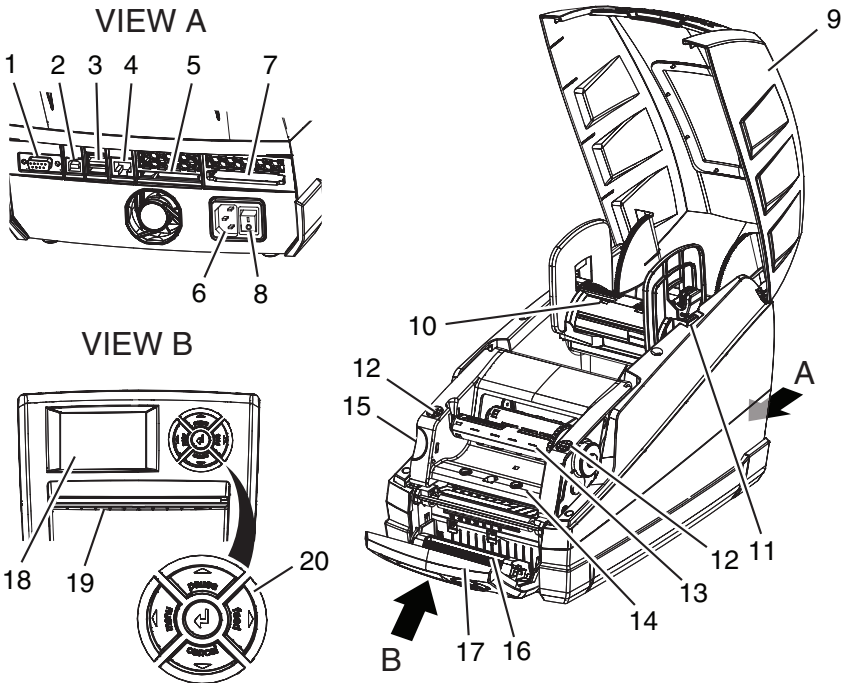

Figure 1, Overview
- Open the Brady IP printer cover (**Figure 1, 9**).
Switch the printer power switch (**Figure 1, 8**) to the off position (O) before connecting the printer to the power supply.
1. Plug the power cable into the power connection socket on the back of the printer (**Figure 1, 6**).